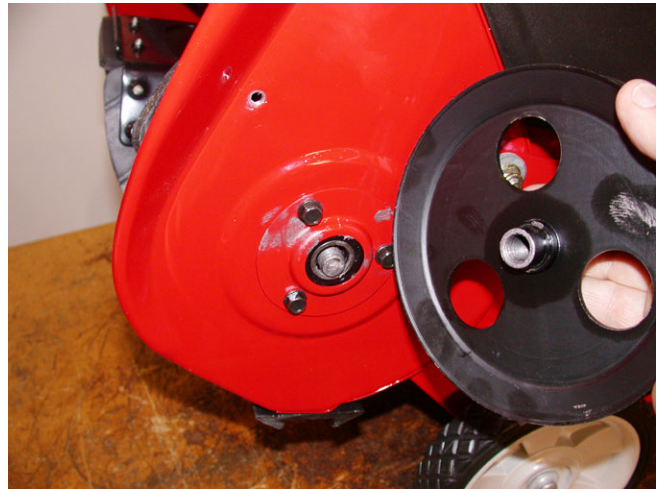

Figure 13
- 9.2. Remove the pulley. See Figure 13.